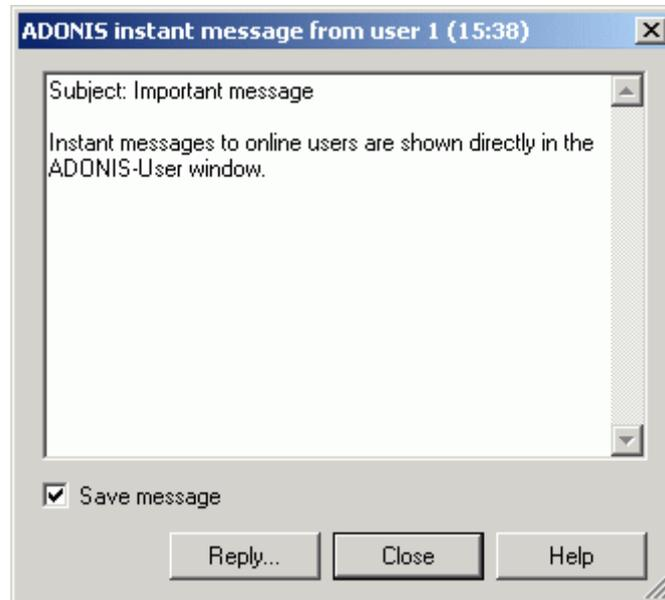

Figure 464: Instant message display
Select the option "**Instant message to online users**" to send relevant messages to logged in ADOxx users. Instant messages will be directly delivered, i.e. the addressee receives the whole message in a pop-up window (see fig. 464) on her/his screen.
**Hint:** You can reply on an instant message directly from the message window (see fig. 464).
When an instant message has been received, the whole message, i.e. sender, sending time, title and text will be displayed in a window (see fig. 464).
If this option is activated, instant messages received, i.e. the whole message (sender, sending time, title and text), will be immediately shown in a window (see fig. 464).